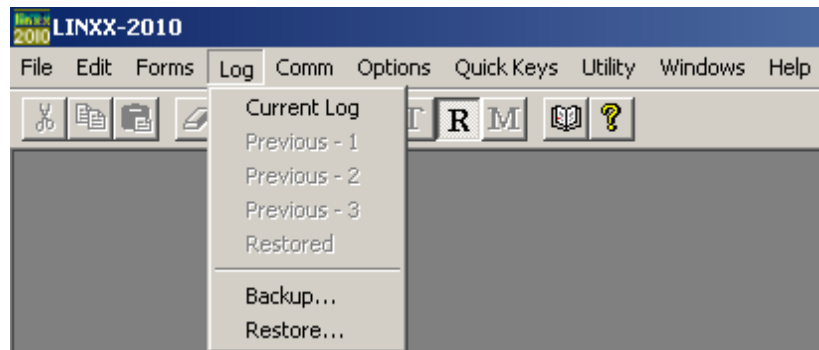

Figure 6.1 Log Menu - Backup
2. Click **Backup** from the menu as shown in Figure 6.1.